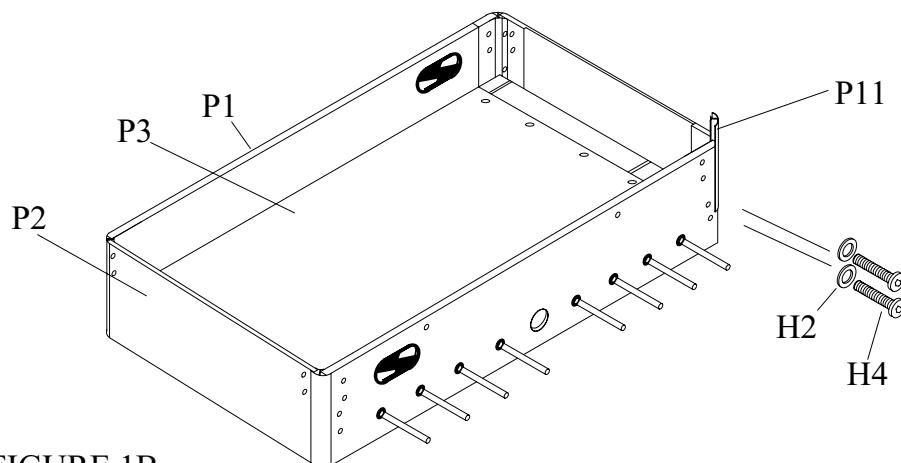
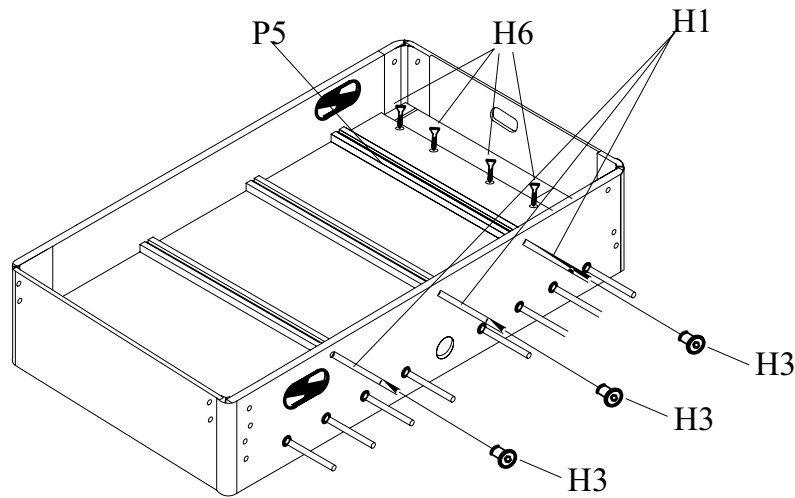

FIGURE 1B
FIGURE2
- 3 ATTACH THE TWO END PANELS **P2** TO THE SIDE PANELS **P1** AS SHOWN IN **FIGURE 2**. **REMEMBER THE GROOVE MUST FACE INWARD TOWARD THE PLAY FIELD**. INSERT THE BENDS (P11) INTO THE SIDE PANELS (P1) & END PANELS (P2) SEE **FIGURE 1B**.
- 4 ATTACH THE END PANELS WITH BOLTS (**H4**) AND WASHERS (**H2**) INTO THE PRE-INSTALLED DOWEL CONNECTORS. TIGHTEN ALL HARDWARE AT THIS TIME. INSERT PLAYING FIELD (P3) INTO THE GROOVE ON THE SIDE PANELS (P1) WITH GRAPHICS FACING DOWN. SEE **FIGURE 1B**.
DO NOT TIGHTEN AT THIS TIME! SEE **FIGURE 2**.
- 6** ATTACH PLAY FIELD WITH EIGHT SCREWS (**H6**) IN THE ENDS AS SHOWN IN **FIGURE 2**.